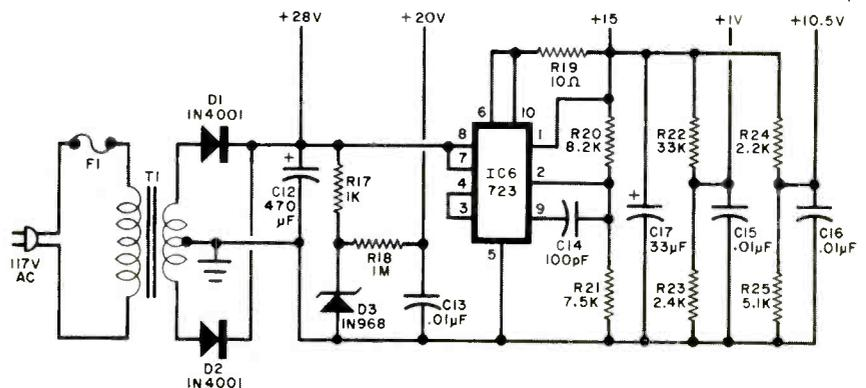

Fig. 5. Schematic of power-supply circuit.
Note—See Parts List for Fig. 5 for kit information.
**PARTS LIST FOR FIG. 5**
The power supply is shown in Fig. 5. It uses a voltage regulator, IC6, to generate the main 15-volt supply output. The shift register requires supplies of both +1 and +20 volts. The +20-volt line is obtained through the